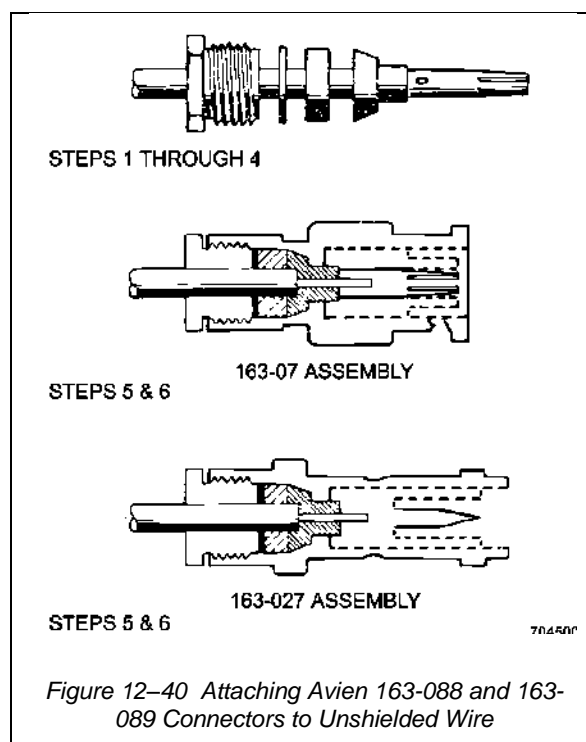

Figure 12-40 Attaching Avien 163-088 and 163-089 Connectors to Unshielded Wire
34. For assembly of Avien 163-07 and 163-027 connectors to AN No. 20 unshielded wire, (see Figure 12-40), use the following procedure: